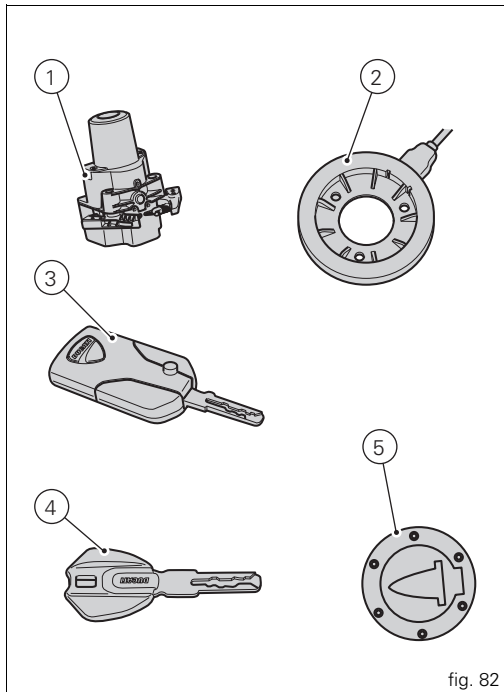
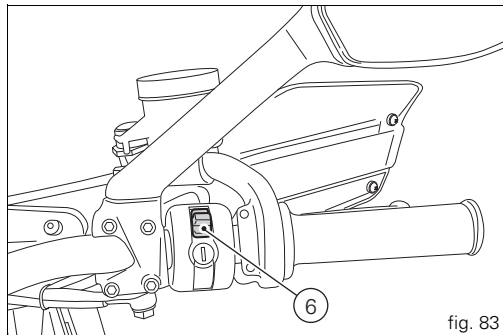
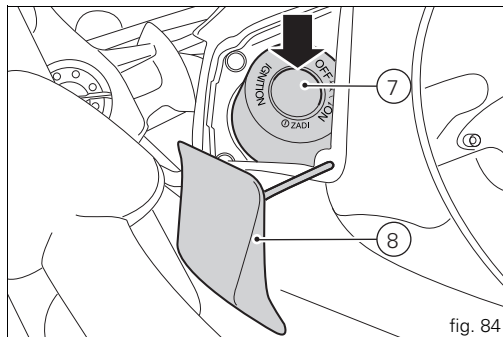

fig. 82
fig. 83
fig. 84
The "Hands free" lock (1, fig. 82) is located on the front of the tank. The door must be removed to access it (2, fig. 84).
In the USA version the door (8, fig. 84) is not present.
Key-Off consists in turning off the hands free system and all electronic devices, and makes sure the engine is turned off. Key-On is done using the button (6) on the handlebar on the right switch or using the emergency button (7) on the Hands free lock (1, fig. 82).
Key-Off is done using the button (6, fig. 83) on the handlebar on the right switch or using the emergency button (7) on the Hands free lock (1, fig. 82).
Key-On can only occur in the presence of one of the two keys (3, fig. 82) or (4, fig. 82) or using the pin code.
Key-Off can also occur without a key (3, fig. 82) or (4, fig. 82).
When the battery is discharged, the active key (3, fig. 82) acts like a passive key (4, fig. 82). The instrument panel displays the discharged battery status.
A Key-On can be performed by pressing the red key (6) on the handlebar in the HANDS FREE ON/OFF position and in the presence of the active key (3, fig. 82).
The active key (3, fig. 82) has a range of approx. 1.5 m, therefore it must be located within this range.
Key-Off can be performed by pressing the red key (6) on the handlebar in the HANDS FREE ON/OFF position. It can be done also without the key (3, fig. 82) only if the motorcycle speed is equal to zero.
Key-On can be performed by pressing the button (7) on the Hands free lock (1, fig. 82) and with the presence of the active key (3, fig. 82).
Key-Off can be performed by pressing the button (7) on the Hands free lock (1, fig. 82), also without the key (3, fig. 82).
A Key-On can be performed by pressing the red button (6) on the handlebar in the HANDS FREE ON/OFF position and in the presence of the passive key (4, fig. 82).
The passive key (4, fig. 82) has a range of a few cm, therefore the key (4, fig. 82) must be positioned near the antenna (2).
Key-Off can be performed by pressing the red button (6) on the handlebar in the HANDS FREE ON/OFF position. It can be done also without the key (4, fig. 82) only if the motorcycle speed is equal to zero.
Key-On can be performed by pressing the button (7) on the Hands free lock and with the presence of the passive key (4, fig. 82).
The passive key (4, fig. 82) has a range of a few cm, therefore the key (4, fig. 82) must be positioned near the antenna.
Key-Off can be performed by pressing the button (7) on the Hands free lock (1, fig. 82), also without the key (4, fig. 82).
Key-On can be performed by pressing the button (7) on the hands free lock (1, fig. 82) without the presence of the keys (3, fig. 82) and (4, fig. 82) and entering the pin code on the dashboard.